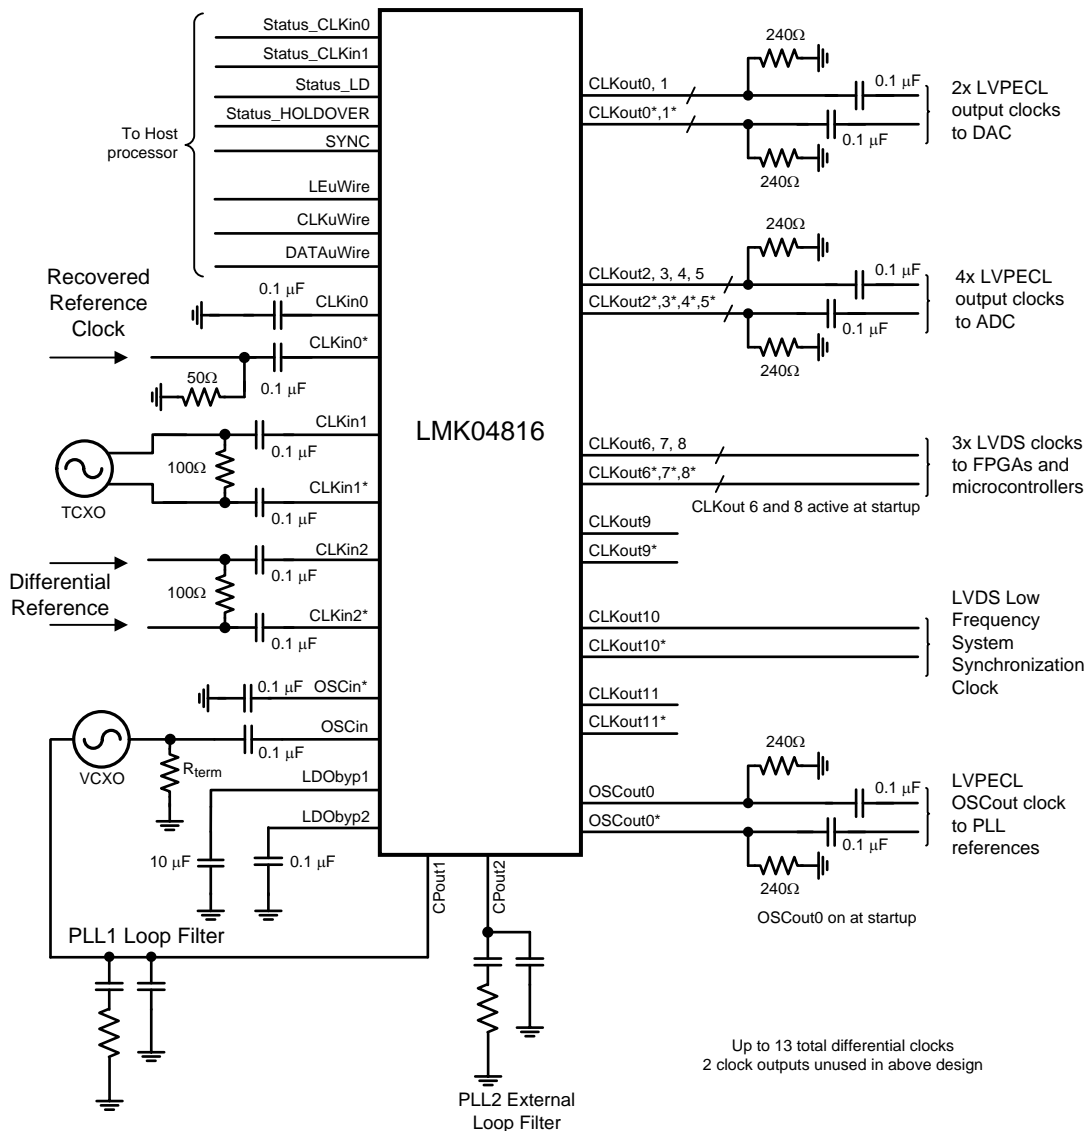
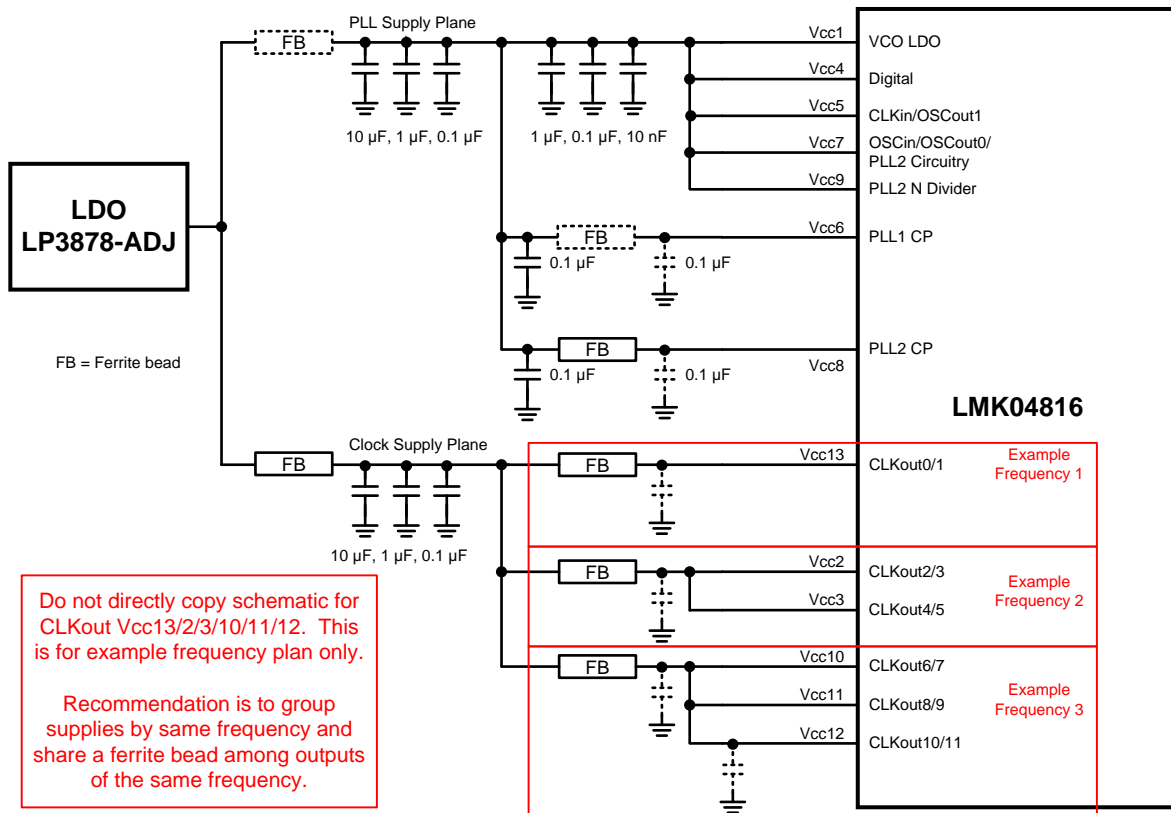

Figure 41. Example Application – System Schematic Except for Power
Figure 42. Example Application – Power System Schematic
*Figure 41* and *Figure 42* show an LMK04816 with external circuitry for clocking and for power supply to serve as a guideline for good practices when designing with the LMK04816. Refer to Pin Connection Recommendations for more details on the pin connections and bypassing recommendations. Also refer to the evaluation board *TSW3085EVM ACPR and EVM Measurements (SLAA509)*. PCB design also plays a role in device performance.
Figure 41 shows the primary reference clock input is at CLKin0/0\*. A secondary reference clock is driving CLKin1/1\*. A third reference clock is driving CLKin2/2\*. All three clocks are depicted as AC-coupled differential drivers. The VCXO attached to the OSCin and OSCin\* port is configured as an AC-coupled single-ended driver. Any of the input ports (CLKin0/0\*, CLKin1/1\*, CLKin2/2\*, or OSCin/OSCin\*) may be configured as either differential or single-ended. These options are discussed later in the data sheet.
Figure 42 shows an example decoupling and bypassing scheme for the LMK04816. Components drawn in dotted lines are optional. Two power planes are used in this design, one for the clock outputs and one for other PLL circuits.
The typical application diagram in Figure 42 shows all these Vccs connected to together to Vcc without a ferrite bead.